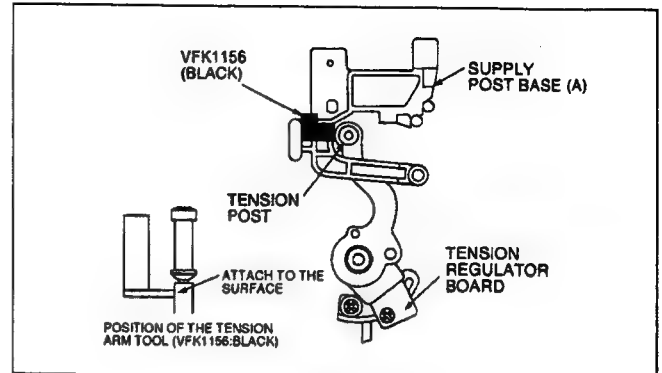

Fig. E15
2. Set VFK1156 (black without hole) on the Supply Post Base (A) as shown in Figure E15.